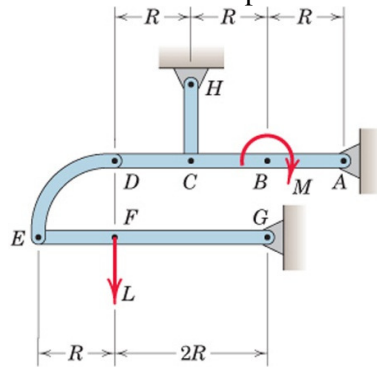

Fig. 3
Q. No. 3 Consider the Fig. 3. Given the values of the load L and dimension R , calculate the value of the couple M for which the force in link CH will be zero.